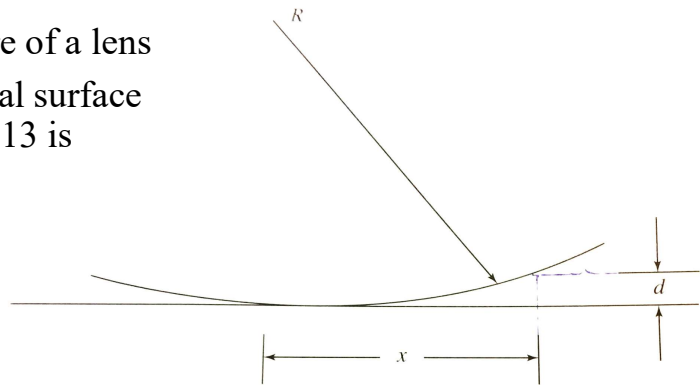

FIGURE 7.13. The sagittal depth is d at a distance x from the point of contact of the lens and the flat for a lens surface of radius R .
- The spacing between a spherical surface and a plane as shown in Fig. 7.13 is given by the sagittal theorem: